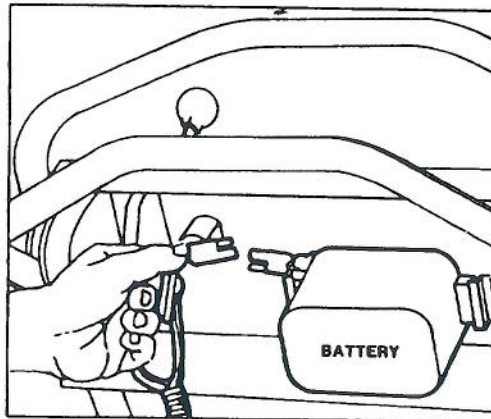

Figure 26
1. Turn key off and disconnect wire harness from battery terminal (Fig. 26).